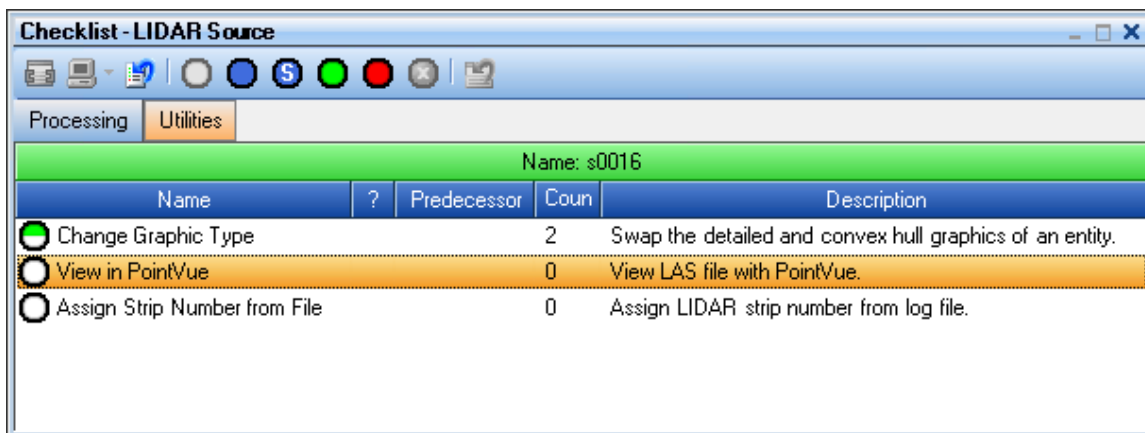

Figure 5-20 Utilities step "View in PointVue"
2. Select the Utilities Checklist step “View in PointVue” (Figure 5-20)